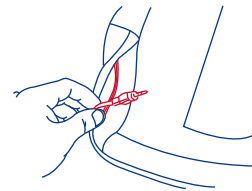

Figure 11a.
- The canopy comes with a speaker sewn into a mp3 storage pocket on the side of the canopy. The speaker has a wire with a male jack for use with mp3 player so you and your child can listen to music while you jog. Connect male end of speaker wire into your mp3 player. See figure 11a. Your stroller is now ready to use